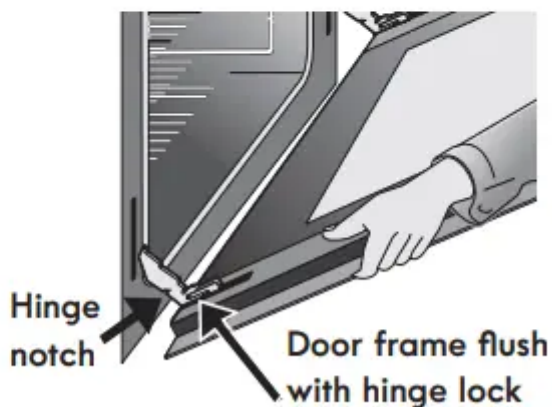

Figure 33: Remove door position
4. Pull the bottom of the door toward you while rotating the top of the door toward the appliance to completely disengage the hinge levers (Figure 33).
1. Firmly grasp both sides of oven door along the door sides. Do not use the oven door handle (Figure 33).
notches. The hinge arms must be fully seated into the hinge notches before the oven door can be fully opened. (Figure 33).